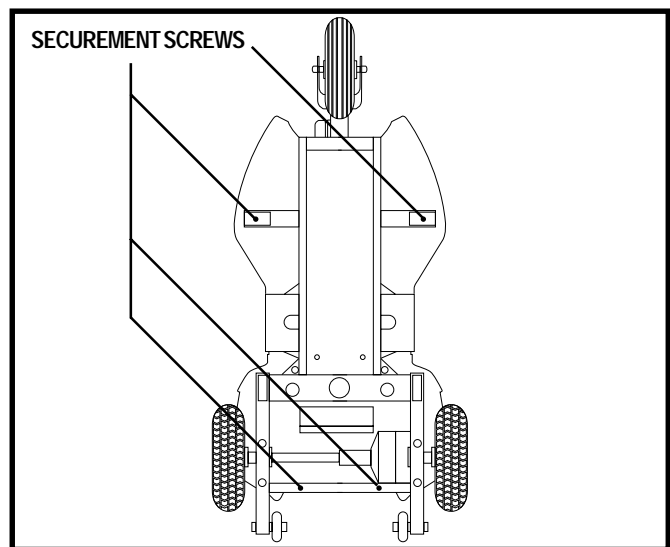

Figure 15. Shroud Securement Screws
4. Position the Travel Scooter in a way that allows access to the underside of the Travel Scooter and remove the four (4) screws that secure the plastic shroud to the frame. **See figure 15.**